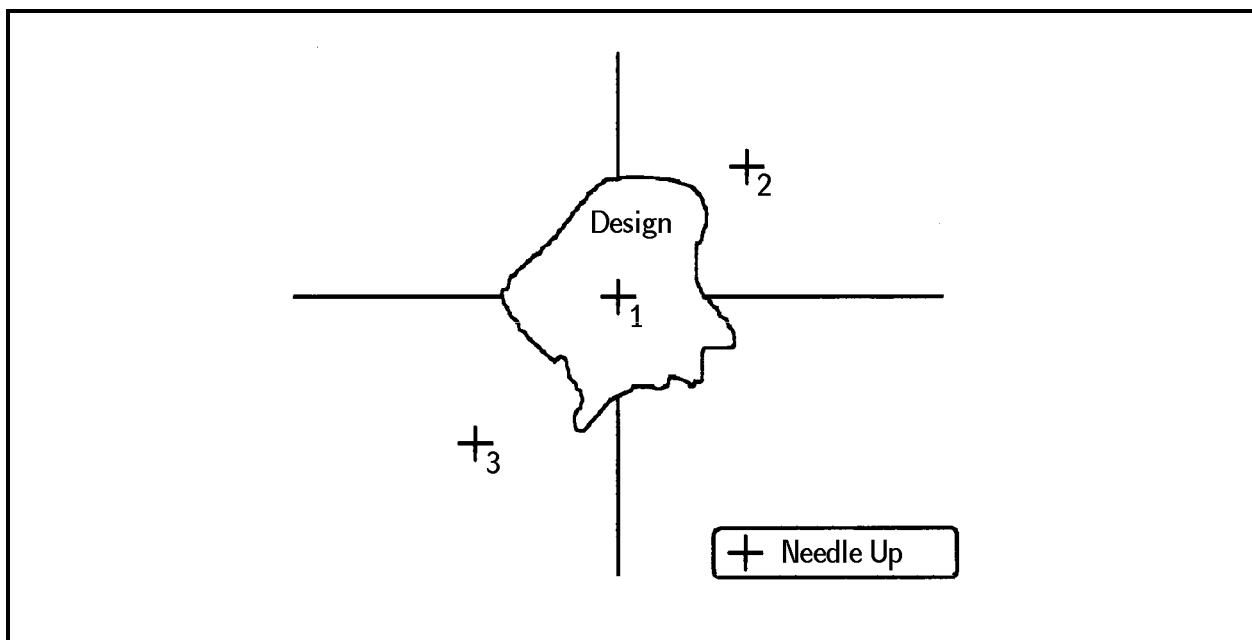

Figure 1-14
- A. The first dataset after Start Design in any Premier/Stellar design should be a needle up at the origin (0, 0 coordinates). See item 1 in Figure 1-14.
- B. The next dataset should be a needle up defining the upper right (most positive coordinates) of the design. See item 2 in Figure 1-14.
- C. A third dataset should be a needle up defining the lower left (most negative coordinates) of the design. See item 3 in Figure 1-14.